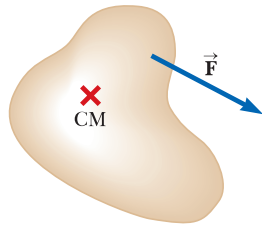

Figure OQ12.3
- Consider the object in Figure OQ12.3. A single force is exerted on the object. The line of action of the force does not pass through the object's center of mass. The acceleration of the object's center of mass due to this force (a) is the same as if the force were applied at the